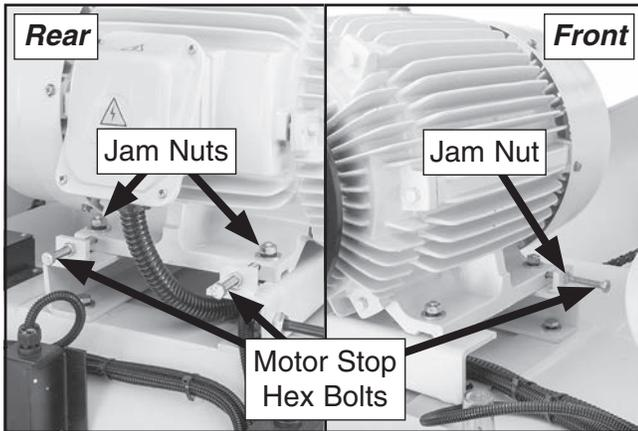

Figure 93. Location of upper cutterhead motor positioning hardware.
4. Loosen jam nuts on motor stop hex bolts (see **Figure 93**).
5. Loosen rear motor stop hex bolts (see **Figure 93**) 3–5 turns.